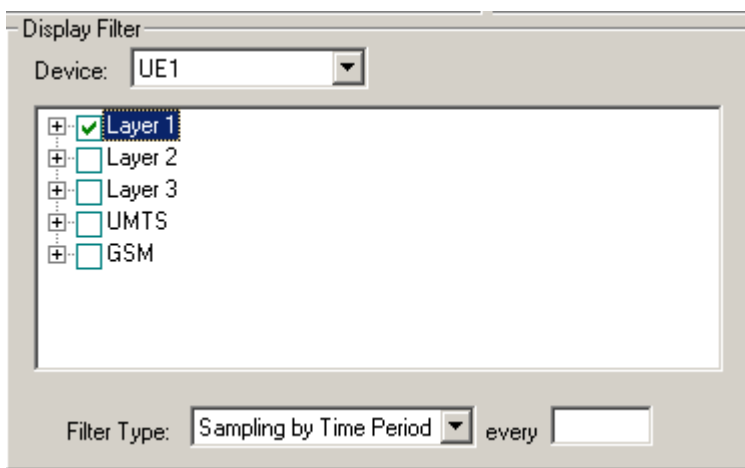

Figure 6-35 Device drop-down list
- 1) Choose the sampling device in the **Device** drop-down list, as shown in Figure 6-35.